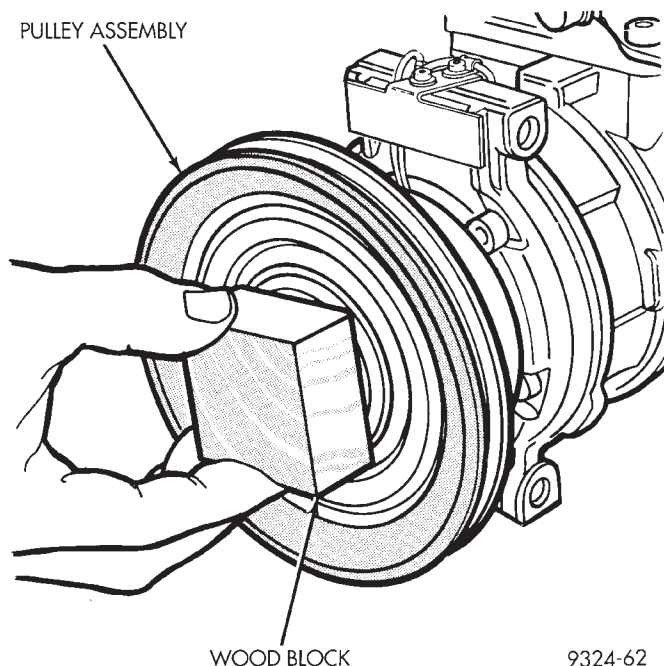

Fig. 34 Installing Pulley Assembly
(3) Install pulley assembly to compressor. If necessary, tap gently with a block of wood on the friction surface (Fig. 34).
(4) Install pulley assembly retaining snap ring (bevel side outward) with Snap Ring Pliers (C-4574). Press the snap ring to make sure it is properly seated in the groove.